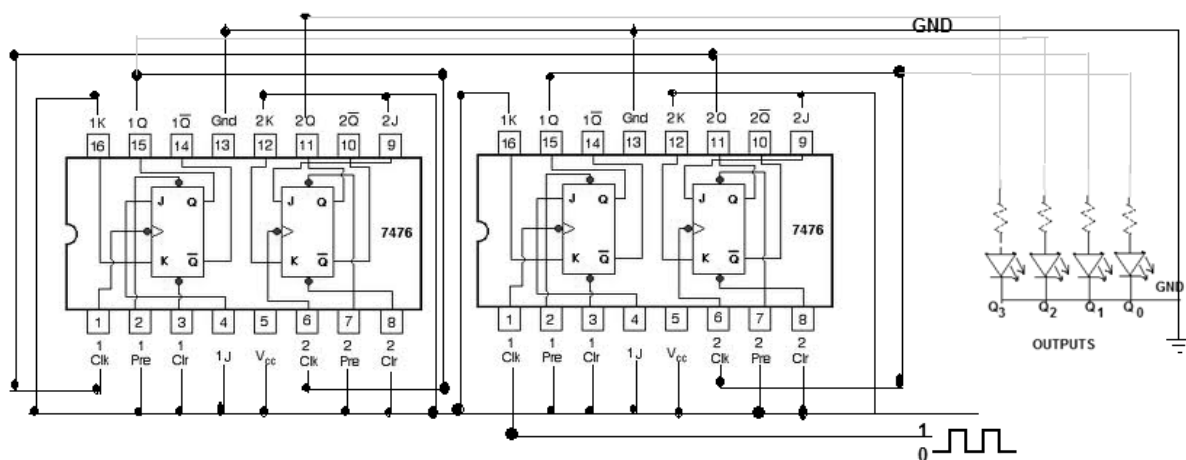

Figure. 3 Ripple counters using IC 7476
3. Make the connections as per the circuit diagram shown in Fig. 3